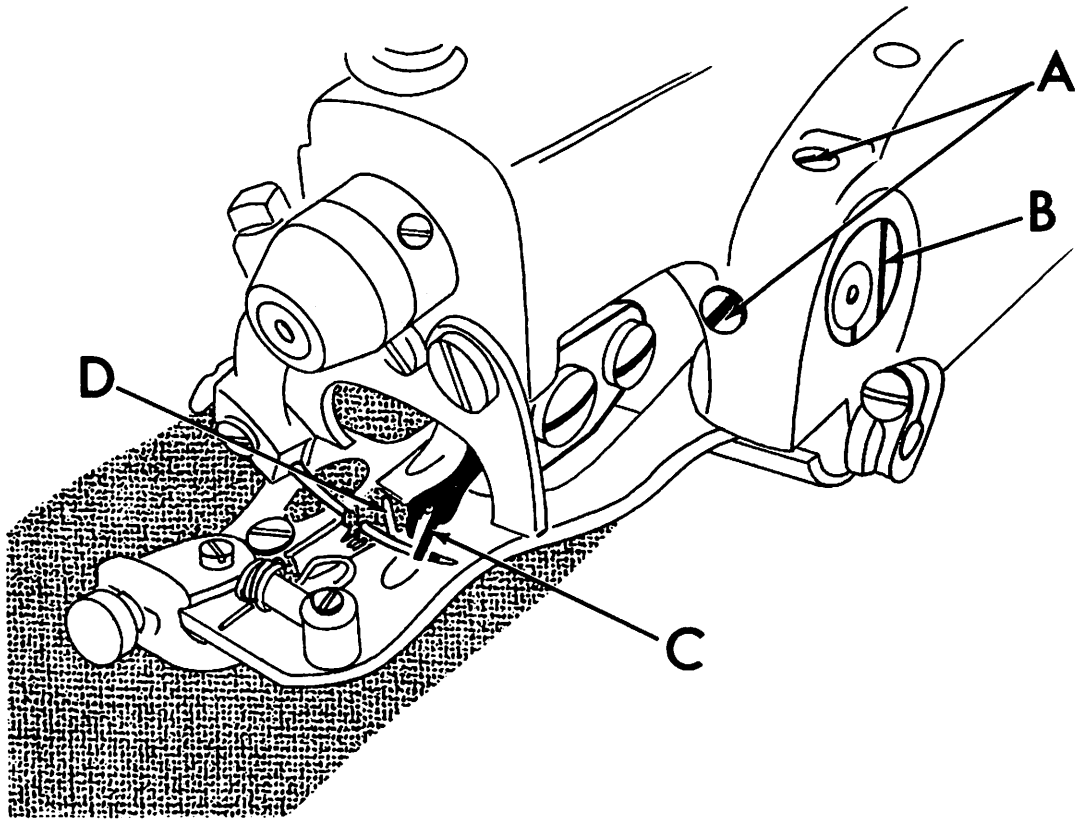

FIGURE 7
2. Any time a looper is moved or changed, recheck the looper timing and reset if necessary. Proper looper timing is absolutely essential for correct stitch formation. As described in detail below, a properly timed looper will pass over the needle in the correct position to pick up the loop, and also clear the chain-off pin, feeder, looper slot, and needle. The first check point for timing the looper is at the position where the looper picks the thread loop off the needle during the needle return stroke. Referring to Figure 7, (Point "C"), the long prong of the looper should pass over and just clear the scarf of the needle, approximately  $\frac{3}{32}$ " (2.4mm) behind the end of the needle eye. At the same time, the short prong of the looper should pass over the needle with about  $\frac{1}{64}$ " (.406mm) clearance, and must be so set that it also clears the chain-off pin (item "D" in Figure 7).
5. If, after completing the above adjustments, it is found that the looper is either too low or too high, it will be necessary to adjust the eccentric block. First loosen the two set screws (item "A" in Figure 7). Place a wide blade screwdriver in the slot of the eccentric block (item "B" in Figure 7) and, using a slight turning motion, raise or lower the looper as required. Once the proper height is established, check to see whether the looper must be moved to the left or to the right prior to re-tightening the eccentric block set screws. If such a movement is required, it may be obtained by lightly tapping the eccentric block in the correct direction with the handle of a screwdriver.